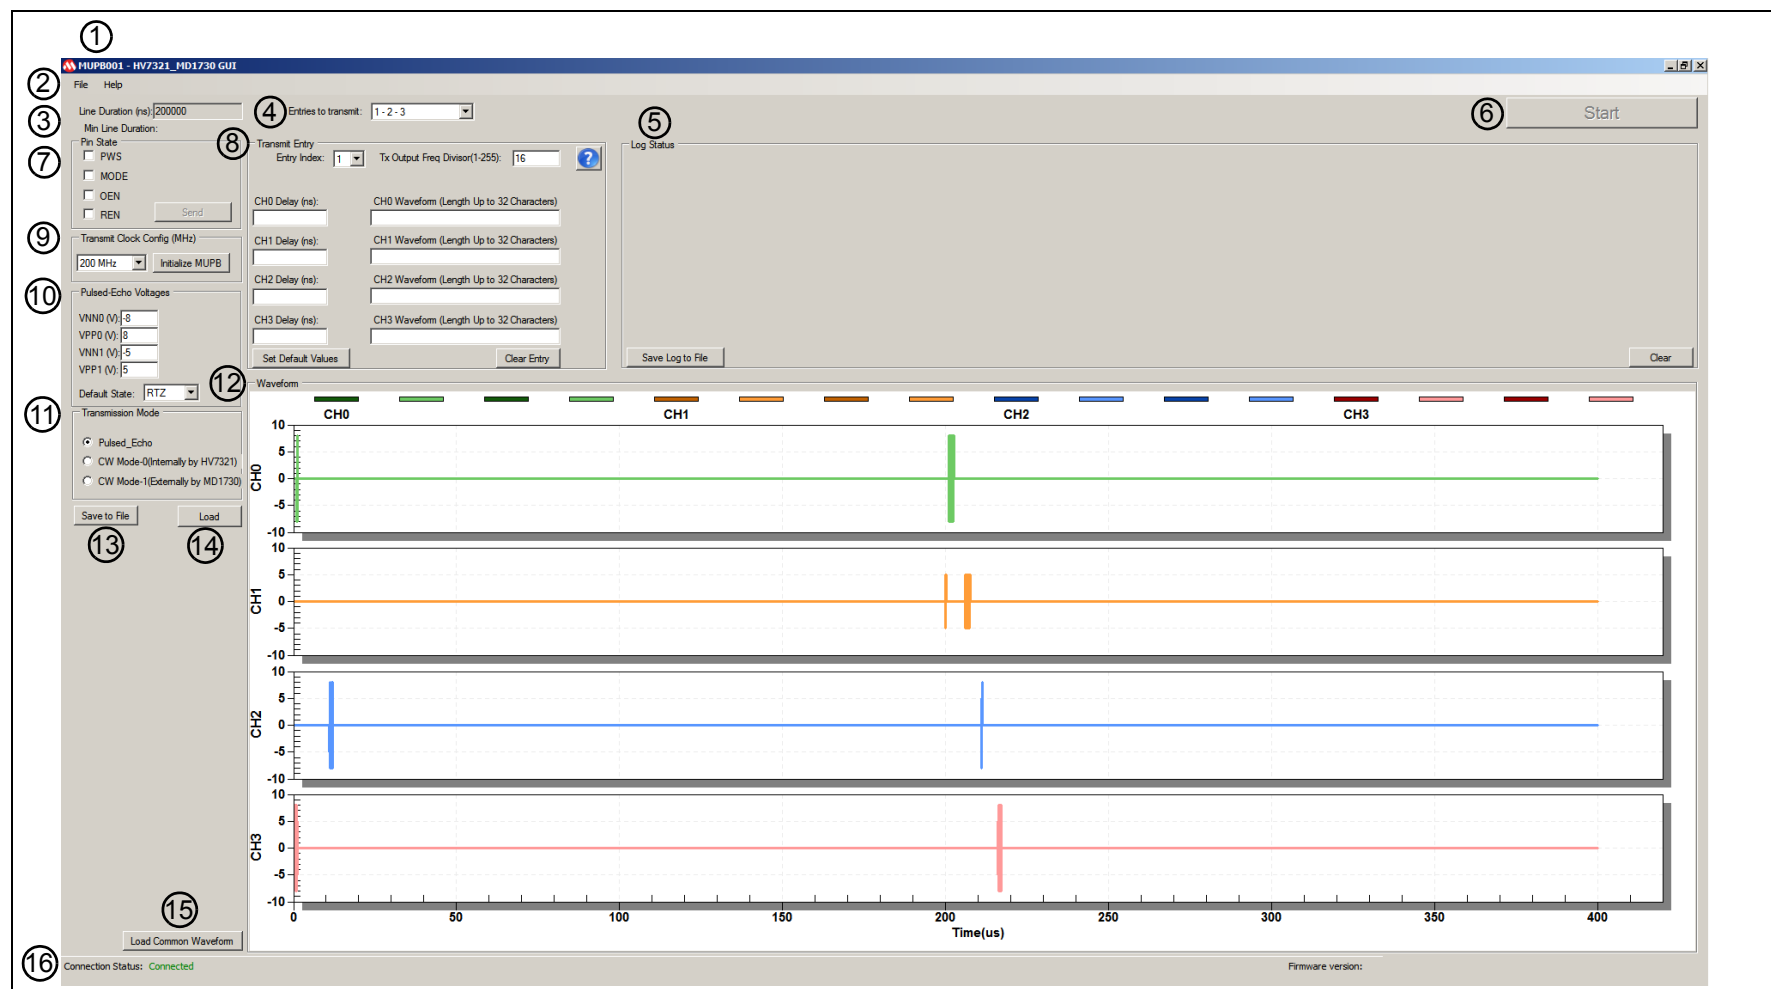

FIGURE 3-7: MUPB001 – HV7321_MD1730 GUI Pulsed-Echo View.
The elements of the MUPB - HV7321_MD1730 Graphical User Interface are dependent on the selection being made in the **Transmission Mode** list box (3.4.11), labeled with 11 on Figure 3-7.
Transmission Mode “Pulsed-Echo” is selected by default. This section provides a comprehensive overview of the main GUI elements. Some elements are specific to Pulsed-Echo only, while others are shared across transmission modes, i.e., common to the GUI as a whole. The numbered entries in Figure 3-7 (1 through 16) are described in subsections 3.4.1 through 3.4.16.
- the users can adjust the pulse width by entering a value between 1 and 255 in this text box. If **Transmit Clock Config (MHz)** (see Figure 3-7) is 200 MHz then the clock period is 5 ns. The pulse width is adjusted by dividing the TX Output Freq Divisor to the Transmit Clock Frequency. The default value is 16.